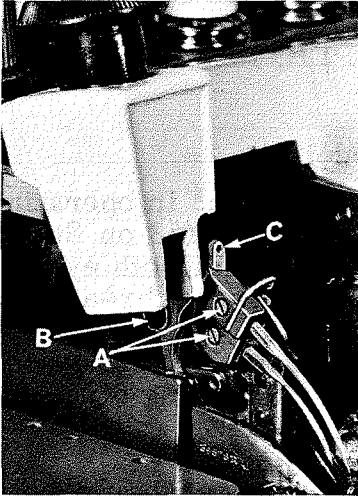
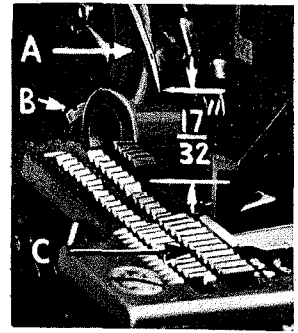

Fig. 2
Fig. 4
Release pressure on presser foot by turning the presser foot release bushing (A, Fig. 1) and swinging presser arm (B) out of position. Turn handwheel in operating direction (away from operator) until needle holding screws (A, Fig. 2) are just exposed from behind presser spring plunger (B) and accessible to screwdriver. Loosen screw and withdraw needle. When replacing needles observe the position of the flat which is at the left of the shank and be sure the needle is inserted the full depth to the combination eyelet and stop plate (C).
Release the pressure on presser arm and swing arm out of position. Insert both needles (Type 158 GJ for the 401 stitch and Type 154 GAS for the overedge stitch) into the left and right holes, respectively, of the needle driving arm (A, Fig. 4), so that the butt ends contact the stop plate. Secure needles in this position with clamp screws (A, Fig. 2).
With throat plate assembled in position, the needles should center in the throat plate needle holes. To align the needles, loosen clamp screw (B, Fig. 4) and move needle driving arm to the left or right as required. Gauge No. 21227 CR should be used to set the needle driving arm at the correct height. To use this gauge remove the left needle (401 stitch) and insert the gauge in its place. Be sure gauge seats against the stop plate. Turn the handwheel until needle driving arm is at its lowest position, at this point the gauge should just contact the throat plate. Tighten clamp screw (B, Fig. 4) after correct height has been obtained and needles have been centered in the throat plate needle holes. Remove throat plate.
If gauge No. 21227 CR is not available the correct needle height can be obtained by measuring $\frac{17}{32}$ inch from the 401 needle point (left needle) to the top of the throat plate, when needle driving arm is at its highest point of travel (Fig. 4).